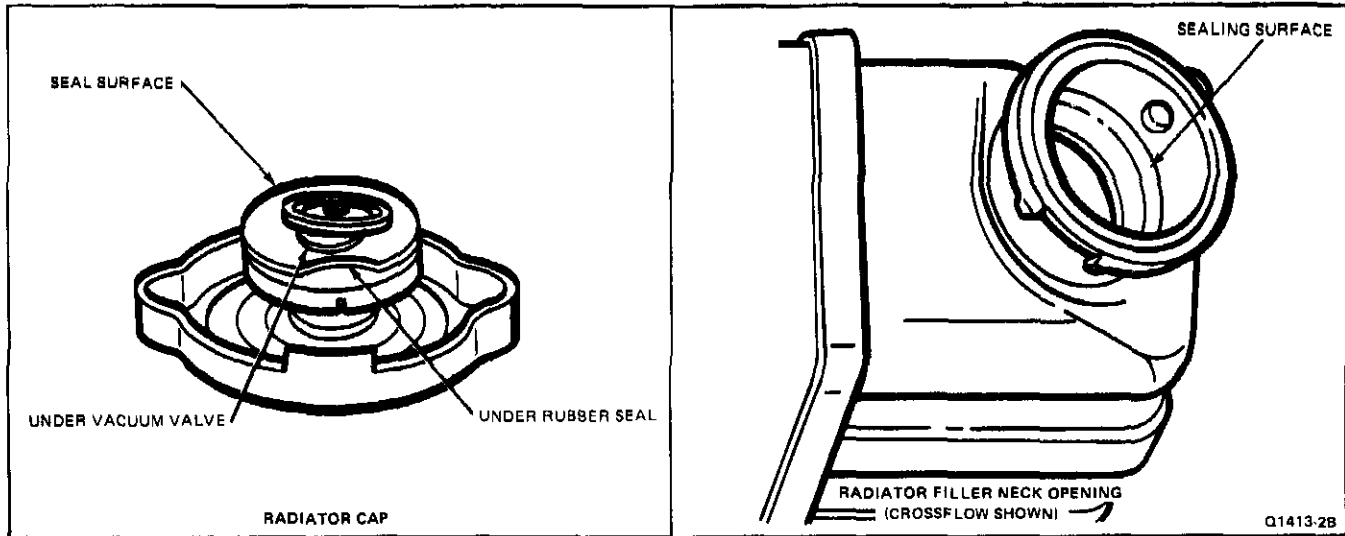

FIG. 6 Cleaning and Inspecting Radiator Cap and Filler Neck Opening
1. Inspect the areas under the vacuum valve and rubber seal for rust or dirt particles (Fig. 6).